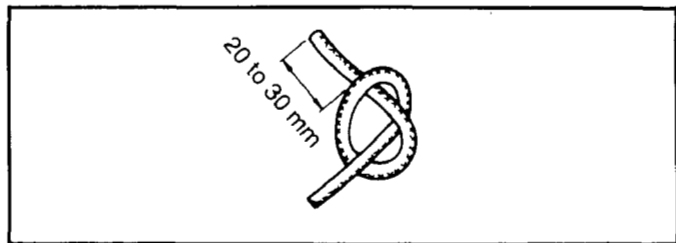

Fig. 9-4
(1) Put the starter rope through the starter knob and tie it as shown in Fig. 9-4. (Tie the rope tightly for the safety sake.)